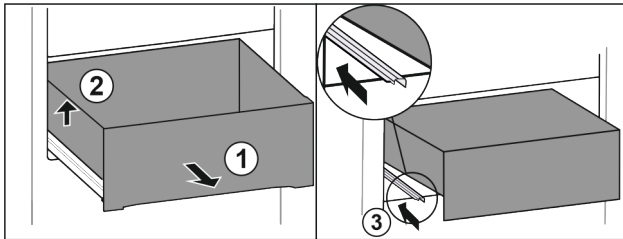

Fig. 113
- ▶ Pull out drawer as far as it will go. Fig. 113 (1)
- ▶ Lift drawer on the left. Fig. 113 (2)
- ▶ Insert left rail. Fig. 113 (3)